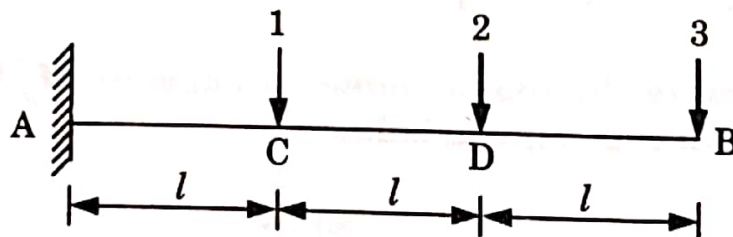

Fig. 6.
5. Develop the flexibility matrix for the cantilever with co-ordinate as shown in Fig. 6, take uniform flexural rigidity.